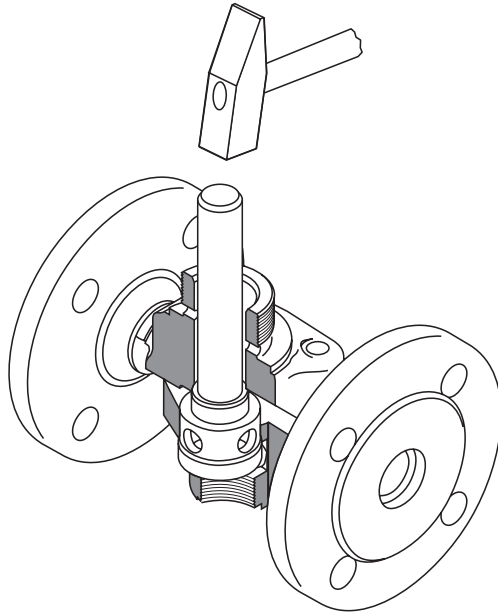

Fig. 7
13. Use steel punch to knock the valve seat **H** out of the valve body **I**. **Fig. 7**